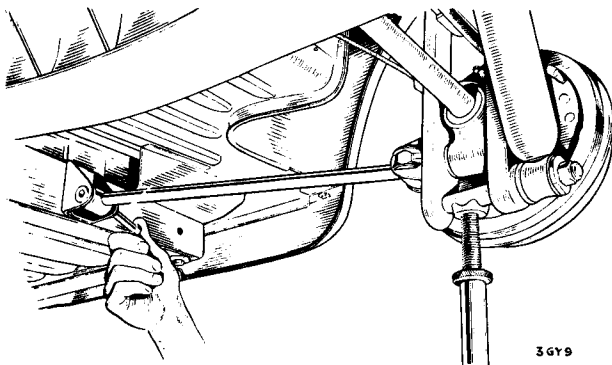

Fig. 4. Utilizing a jack to relieve load on damper
5. Utilize a jack, as shown on Fig. 4 to relieve the damper of load.
7. Remove the nyloc nuts, washers and bolts from the radius arm attachment eyes (Fig. 4) and detach radius arm.